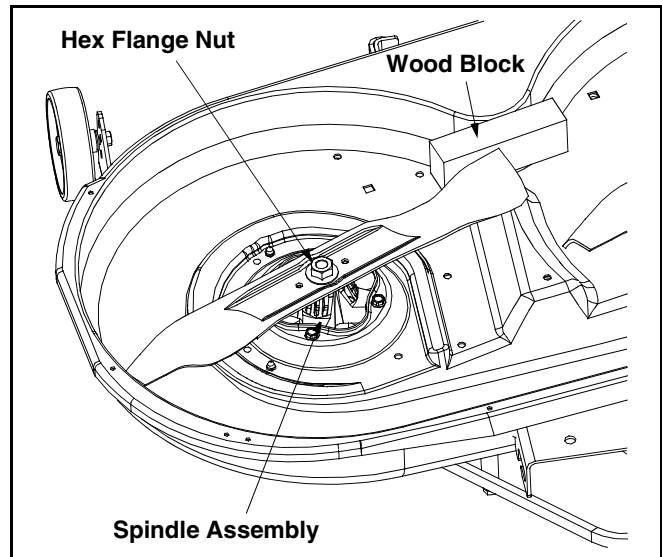

Figure 5
2. Place a block of wood between the center deck housing baffle and the cutting blade to act as a stabilizer. See Figure 5.
3. Use a 15/16" wrench to remove the hex flange nut that secures the blade to the spindle assembly. See Figure 5.